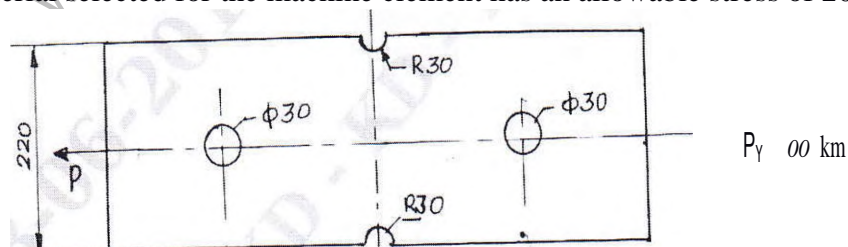

Fig.Q2(b)
- b. A machine element loaded as shown in Fig.Q2(b). Determine the safe value of thickness of the plate. Material selected for the machine element has an allowable stress of 200 MPa.